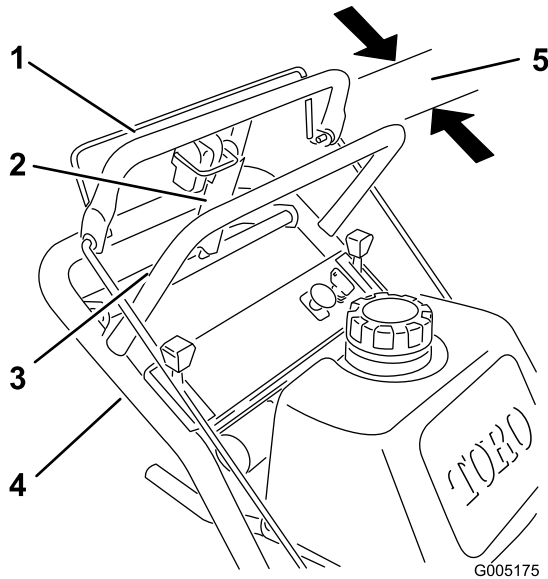

Figure 34
1. Check the gap between upper control bar and fixed bar with wheel drive fully engaged. Ensure the gap is approximately 25-32 mm (1 to 1-1/4 inch) (Figure 34).